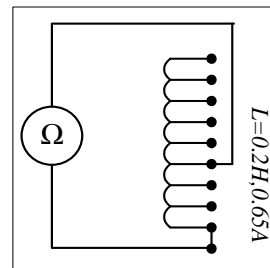

Figure 2 Phase internal series resistance measurement
2. Repeat the phase measurement for the inductive load bank ( $L=0.2H$ ,  $0.65A$ ) internal series resistance for each phase as per figure 2 and enter the values in Table 2.